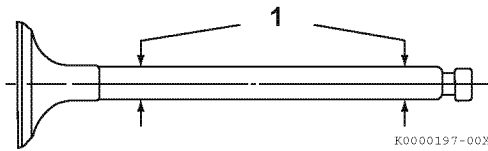

Figure 6-16
Use a micrometer to measure the valve stem diameter. Measure the valve stem near the combustion end and near the opposite end (**Figure 6-16, (1)**). Record the measurements. See *Intake / Exhaust Valve and Guide on page 6-4 for the service limit.*